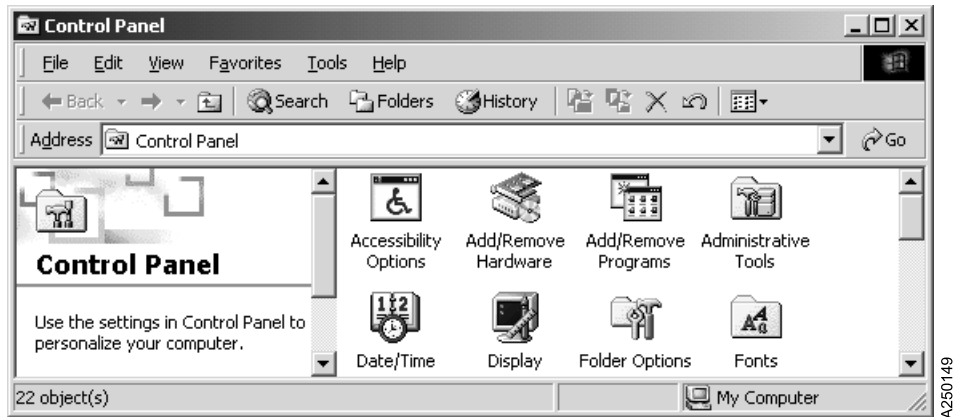

Figure 42. Control Panel Menu
7. After all Ultrium devices are uninstalled, double-click **Add/Remove Programs** on the **Control Panel**. See Figure 42.